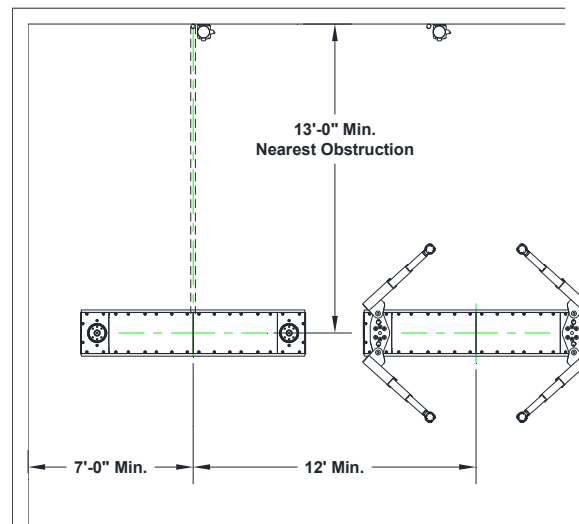

Fig. 1
Locate lift to allow plenty of working room on all sides. Allow room for workbenches at front of bay, aisles, lubrication equipment or other obstructions. Check overhead clearances. Ordinarily 12 feet is ample for automobiles. Observe the recommended minimums in **Fig. 1**.
2. Using a chain hoist and tripod, fork lift, crane, etc. for lifting; lower the lift / containment assembly in the excavation being sure the PVC inlet hole is toward the power unit, until the top of the assembly is 1/8" to 1/4" above finished floor level and aligned with the previously determined center lines. Refer to Figures 1 and 3.
Be sure the adapters are in the lowered position and the arms are parked as seen in **Fig. 1** before attempting to drive on or off of the lift. Failure to do so may damage the adapters or vehicle.